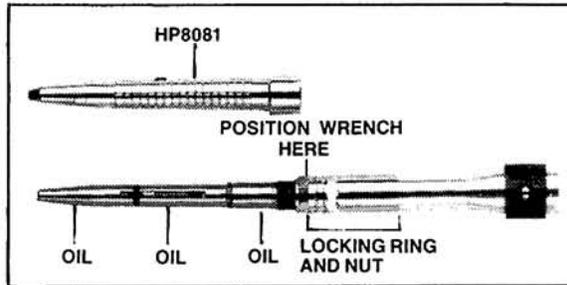

Fig. 1
Maintenance and Lubrication (See Fig. 1)
- A) **Cleaning** — Unscrew the (right hand thread) front housing (Part #HP8081; see figure 1). Soak in a cleaning solution used for dental instruments. Wipe inner spindle clean with a cloth soaked with the cleaning solution *after* removing oil with a solvent.